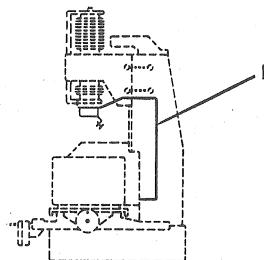

Fig 19
12. Connect the control cable (F) of the magnetic chuck (fig. 19).